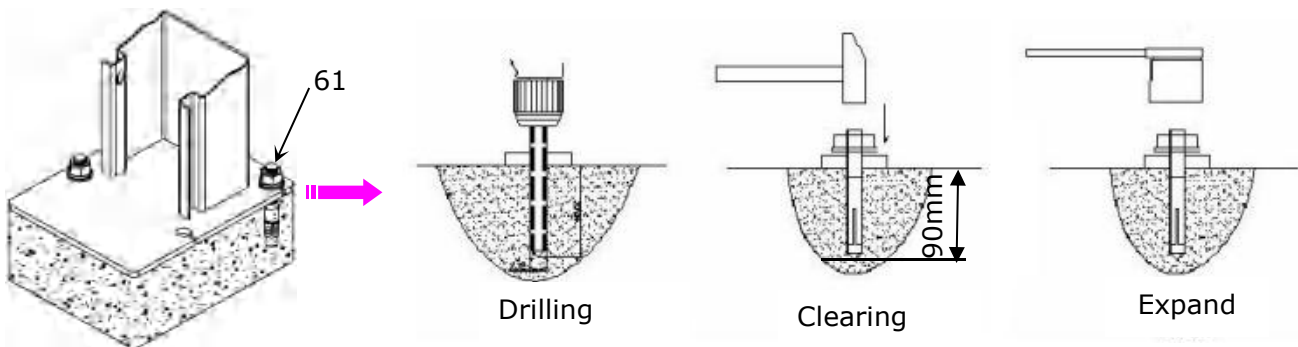

Fig. 32
2. Check the plumbness of columns with leveling instrument and adjusting with the shims. Using the prescribed rotary hammer drill, and drill all the anchor holes and install the anchor bolts. Do not tighten the anchor bolts (See Fig. 32).